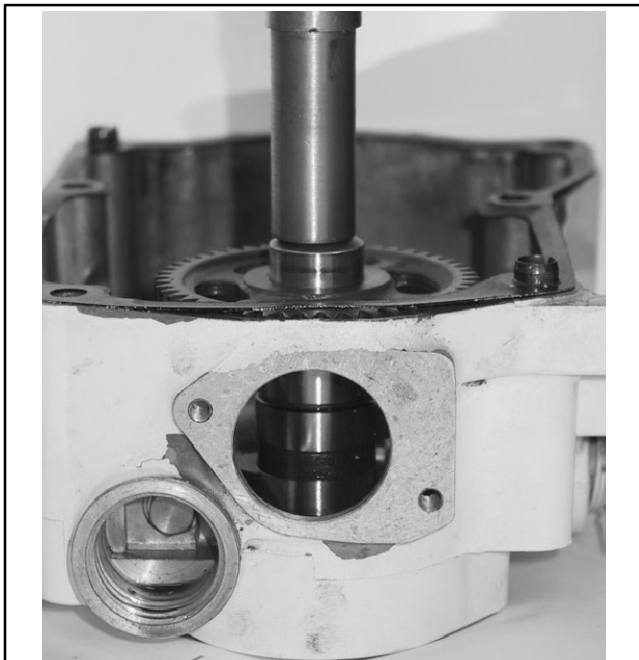

Figure 10-72 Camshaft
2. From inside the gear cover, use a socket to push the camshaft into the bearing hole. See Figure 10-72.